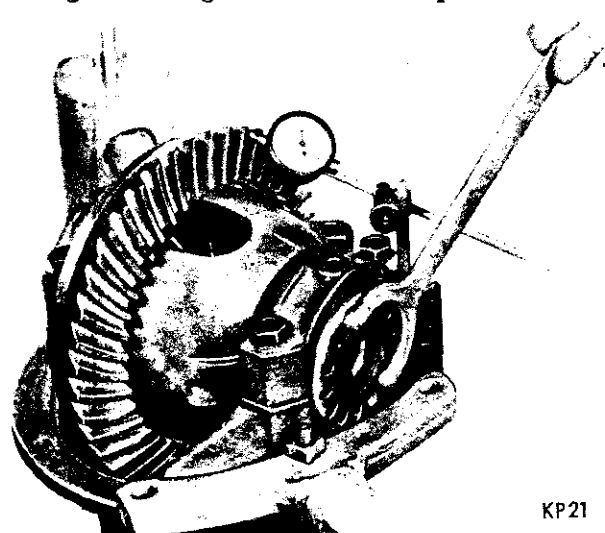

Fig. 33—Measuring Backlash Between Drive Gear and Pinion
(1) Attach a dial indicator Tool C-3339 to carrier flange so pointer of indicator is squarely contacting one drive gear tooth (drive side) (Fig. 33).
(2) Measure backlash between drive gear and pinion at four positions, approximately 90 degrees apart. After point of least backlash has been determined, mark drive gear. **Do not rotate drive gear from point of least backlash until all adjustments have been completed.**
(3) Using Tool C-406A (spanner wrench) turn both bearing adjusters equally (in same direction) until backlash between drive gear and pinion is .0005 to .0015 inch. **This backlash variation is given to permit alignment and installation of the bearing adjuster lock, lockwasher and attaching screw. The adjuster must only be turned in a clockwise direction and under no circumstances should be backed off.**
(4) Install adjuster lock on bearing cap, back-face side of drive gear. Tighten lock screw to 15 to 20 foot-pounds.
(1) Turn bearing adjuster (tooth side of drive gear) (Fig. 33) in a notch at a time (notch referred to is the adjuster lock holes) until backlash between drive gear and pinion is a minimum of .006 to .008 inch. This will preload differential bearings and establish correct backlash.
(2) Tighten the remaining two differential bearing cap bolts to 85-90 foot-pounds.
(3) Install remaining adjuster lock, lockwasher and attaching screw. Tighten to 15-20 foot-pounds.